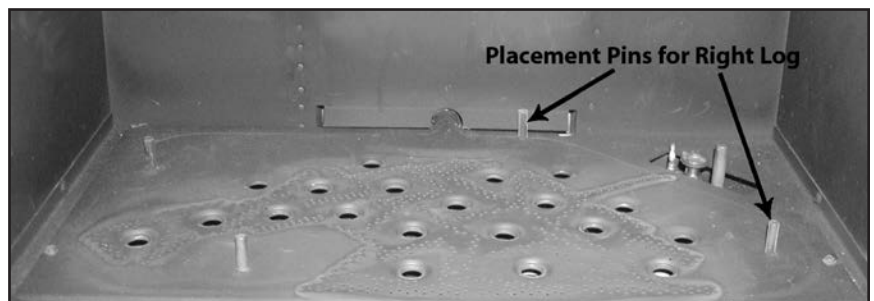

Figure 52: Step 1 of Log Placement.
2. Place the log set into the firebox. Locate each log by seating it down onto the burner tray support pins. Follow Figure 52 to Figure 59